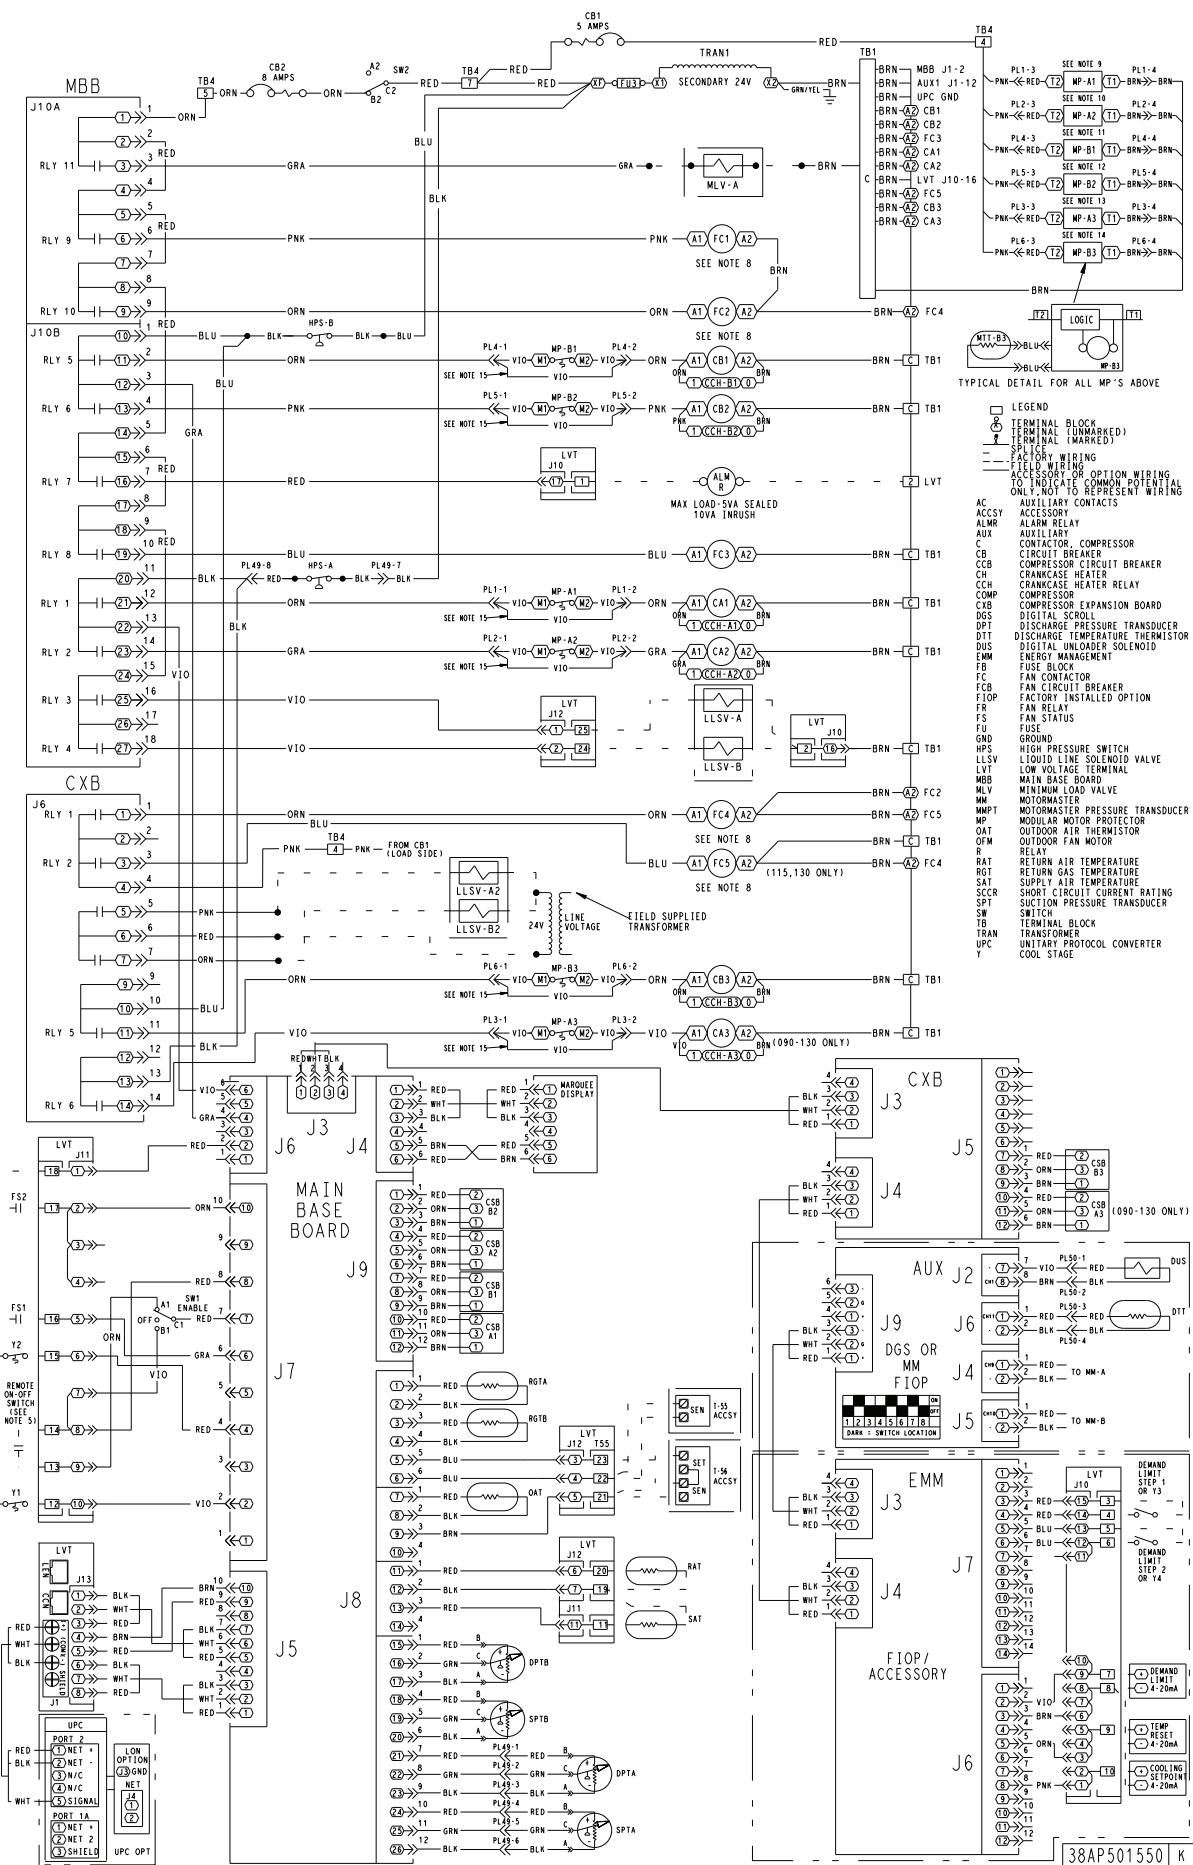
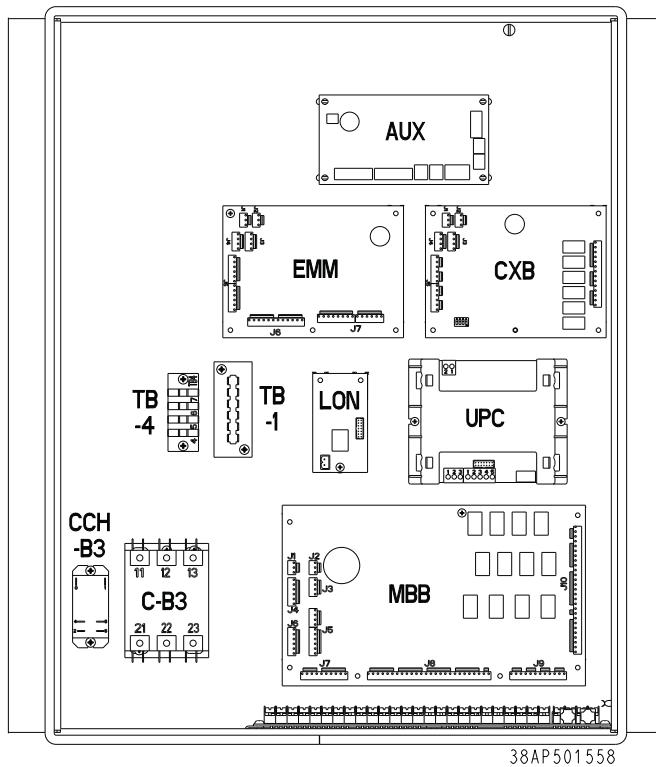

Fig. 19 — Motormaster® V Control Wiring — 38APD070-130 Units
Fig. 21 — AUX Board Installation Location — 38APD070-130 Units
7. If the unit already has an AUX board installed, skip to Step 9. Install AUX board (Item 14) using 4 AC41AB100 screws (Item 16) provided. See Fig. 21. Set DIP switch 2, 5, and 7 = ON. See Fig. 19.
- d. Plug terminal board connector labeled AUX J4 to AUX Board J4. Plug terminal board connector labeled AUX J5 to AUX Board J5. See Fig. 19.
Perform the following procedure to modify the control box for the accessory. See Fig. 19 and 22 for wiring details.
NOTES — FIG. 19